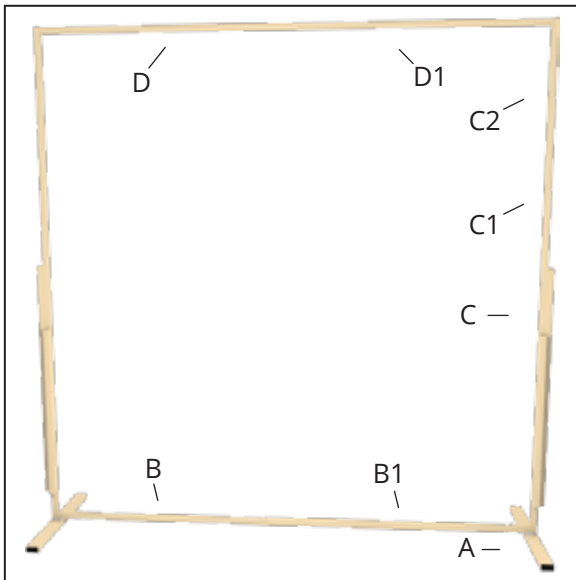

Figure 1
- Step 3** Assemble adjustable base support by sliding Part B1 into Part B. Adjust to desired width by using indent pin (see Figure 2). Bolt to base plates (Parts A) using inside sets of pre-drilled holes with 5/16" x 1 1/2" bolts and 5/16" wing nuts (see Figure 1).
- Step 4** Attach base uprights (Part C) to base bars (Parts A) using outside sets of pre-drilled holes with 5/16" x 1 1/2" bolts and 5/16" wing nuts (see Figure 1). Base uprights have storage pockets for extensions.